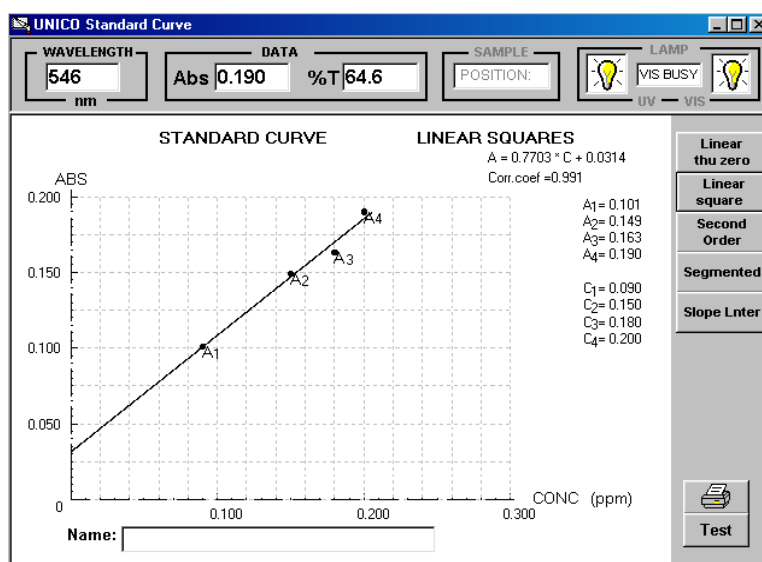

Figure-26 Standard Curve Graphic Display
Step 8: Press the **Draw** button to graph the **Standard Curve** (Figure-26). You may **save** it for future use.